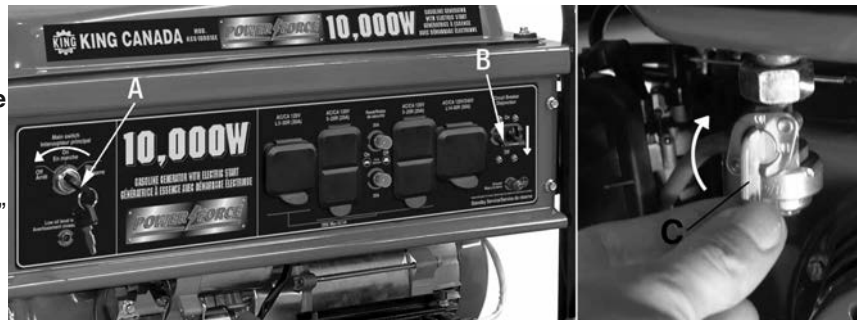

Figure 6
- 1) Turn breaker (B) Fig.6 “OFF” by lowering it.
- 2) Turn the key in the engine power switch (A) to the “OFF” position by turning the key counterclockwise.
- 3) Close the fuel shut-off valve (C) by bringing it upwards.